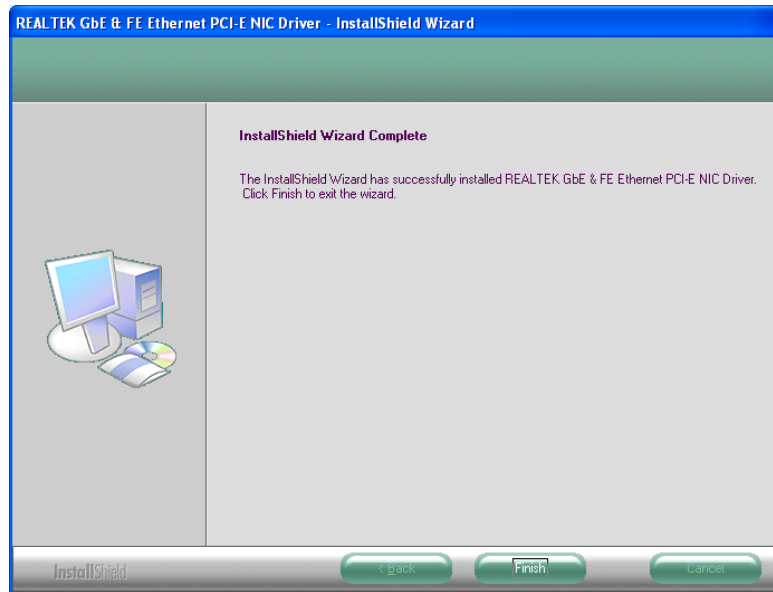

Figure 7-23: LAN Driver Installation Complete
Step 9: When the driver installation is complete, the screen in **Figure 7-23** appears.